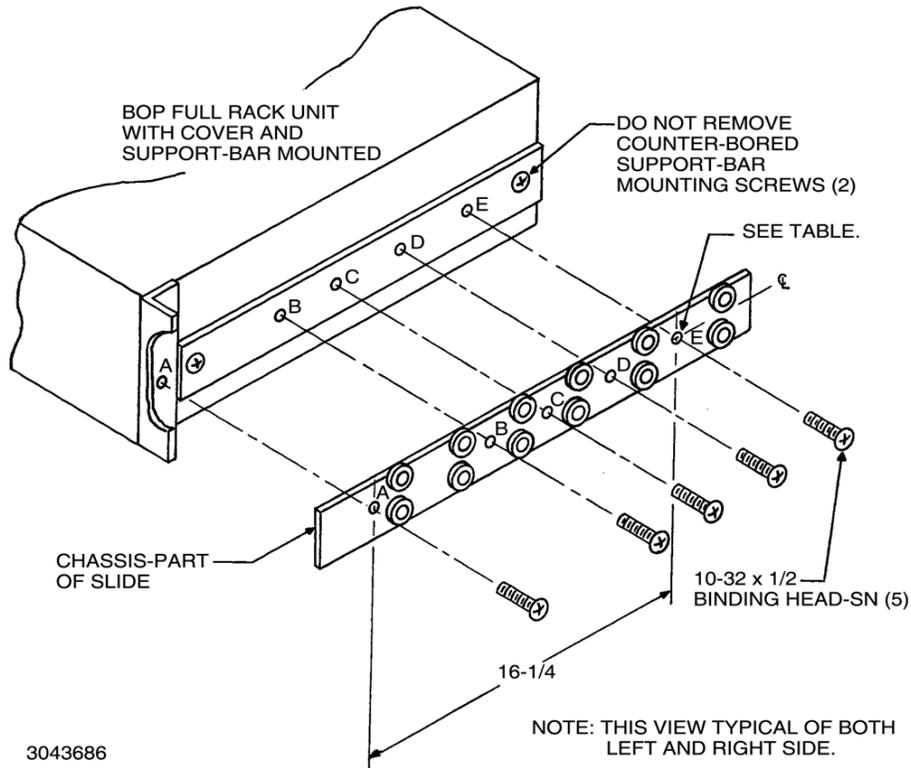

FIGURE 2-4. SLIDE INSTALLATION ON BOP 2X-D UNITS
To install the slides, refer to Figure 2-4 and proceed as follows:
4. Mount the chassis section of the slide to the left and right side of the BOP 2X-D as shown in Figure 2-4. Use the same 10-32 x 1/2" mounting screws removed in step 1.